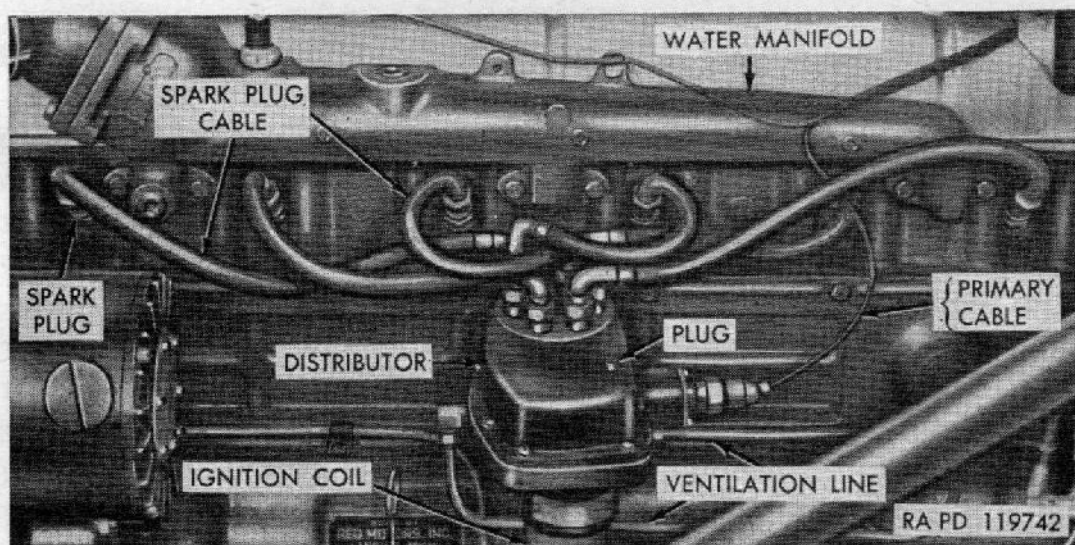

Figure 69. Ignition system.
a. DESCRIPTION (fig. 69).
- (1) **GENERAL.** The ignition system produces and delivers high voltage surges to spark plugs at timed intervals. The system comprises ignition coil, distributor, spark plugs, and connecting cables.
- (2) *Distributor and ignition coil assembly.* The distributor and ignition coil assembly is a device to convert low-voltage current to high voltage by interrupting the current at timed intervals and deliver resulting high-voltage surges to spark plugs in correct sequence. Provision also is made to automatically vary the timing of surges in relation to piston position as necessary for efficient operation of engine.
(1) *Removal* (fig. 69).
- (2) *Installation* (fig. 69).